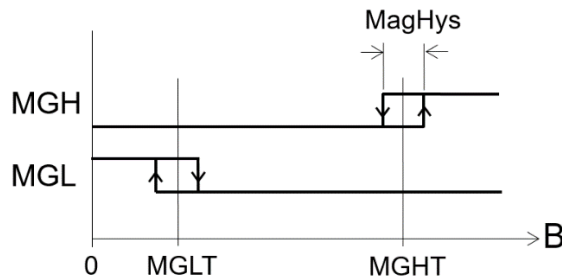

**Figure 17: Typical Circuit for Replacement of an Analog Potentiometer**
Figure 17 shows an example of a circuit with a ratio-metric output in a range larger than 3.3V, between 10% and 90% of the circuit supply voltage (V). V must be sufficiently more than 3.3V to supply the MagAlpha correctly via the linear regulator.